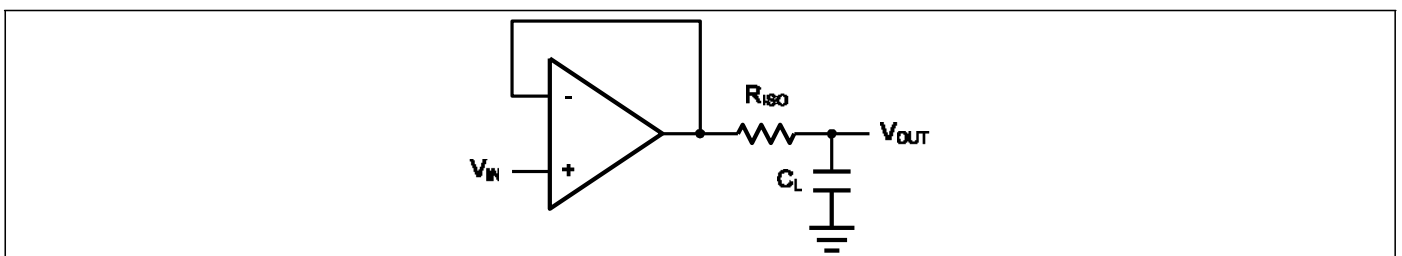
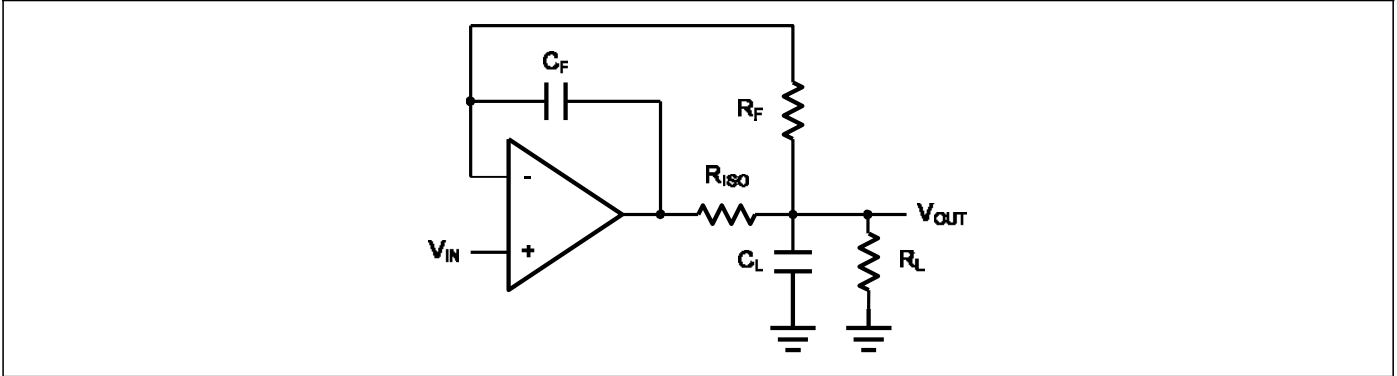

Figure 2. Indirectly Driving a Capacitive Load Using Isolation Resistor
Figure 3. Indirectly Driving a Capacitive Load with DC Accuracy
The AD321A family is optimized for bandwidth and speed, not for driving capacitive loads. Output capacitance will create a pole in the amplifier's feedback path, leading to excessive peaking and potential oscillation. If dealing with load capacitance is a requirement of the application, the two strategies to consider are (1) using a small resistor in series with the amplifier's output and the load capacitance and (2) reducing the bandwidth of the amplifier's feedback loop by increasing the overall noise gain. Figure 2. shows a unity gain follower using the series resistor strategy. The resistor isolates the output from the capacitance and, more importantly, creates a zero in the feedback path that compensates for the pole created by the output capacitance.
The circuit in *Figure 3* is an improvement to the one in *Figure 2*. R_{F} provides the DC accuracy by feed-forward the V_{IN} to R_{L} . C_{F}